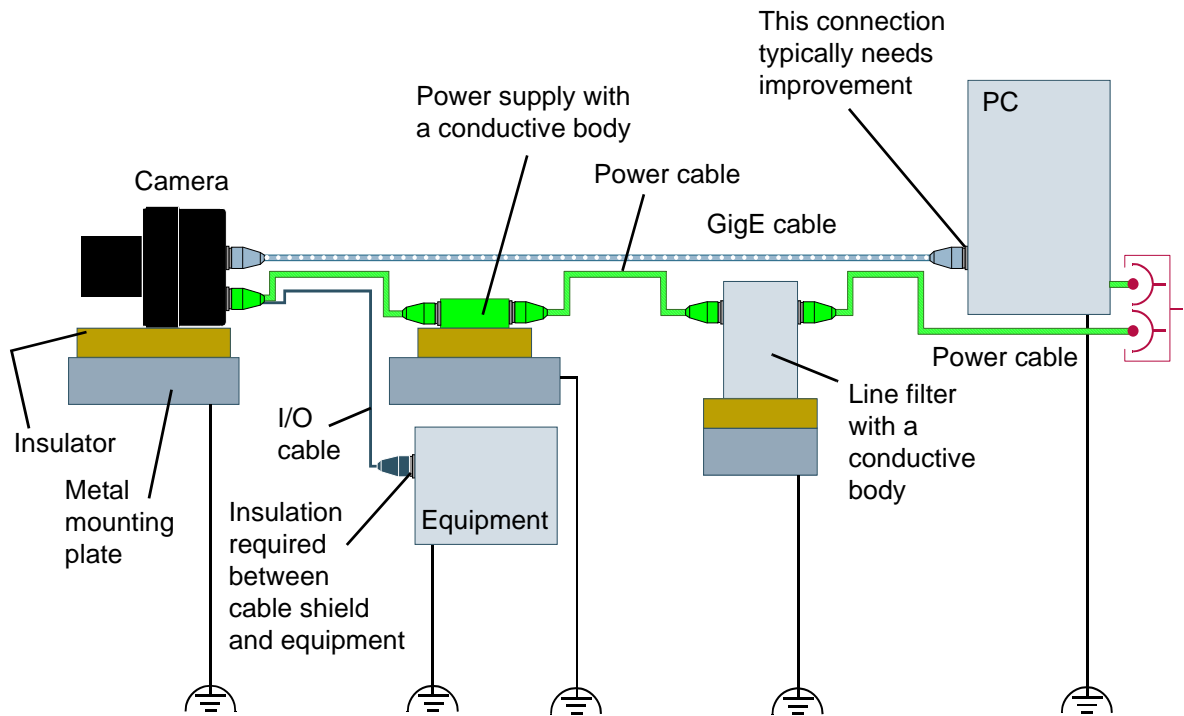

Figure 9: Isolated GigE Camera Attached Directly to PC
- Make sure that the PC chassis, the equipment and the metal mounting plates for the electrical insulators and attached devices (camera, power supply, line filter, see Figure 9) are connected to functional earth ground.
- The I/O ground in the camera is isolated from the camera ground. Therefore, the cable shielding on the I/O cable should only be connected at the camera **OR** at your equipment. We recommend connecting the cable shielding at the camera and insulating it from the equipment (see Figure 9).